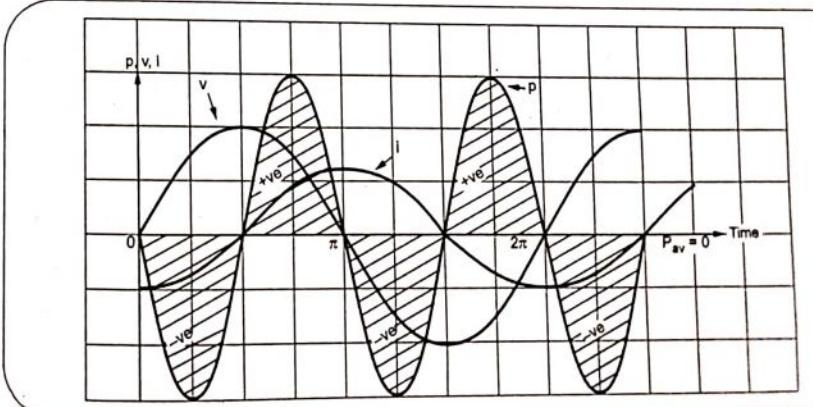

Fig. 3.2.4 Waveforms of voltage, current and power
- The Fig. 3.2.4 shows voltage, current and power waveforms.